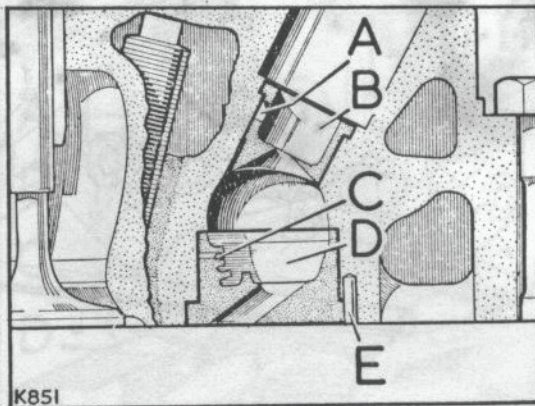

FIG 2:6 View of injector shroud and hot plug
- 1 To strip the shaft, remove all the components and lay them out in order as shown in FIG 2:7.
- 3 To reassemble the shaft, fit an intermediate bracket to the shaft and engage locating screw (26 in FIG 2:7). Continue to assemble as shown in FIG 2:7 noting particularly that the rockers are 'handed'.
Key to Fig 2:6 A Hole positioned towards head centre line B Shroud C Swirl holes D Hot plug E Locating peg